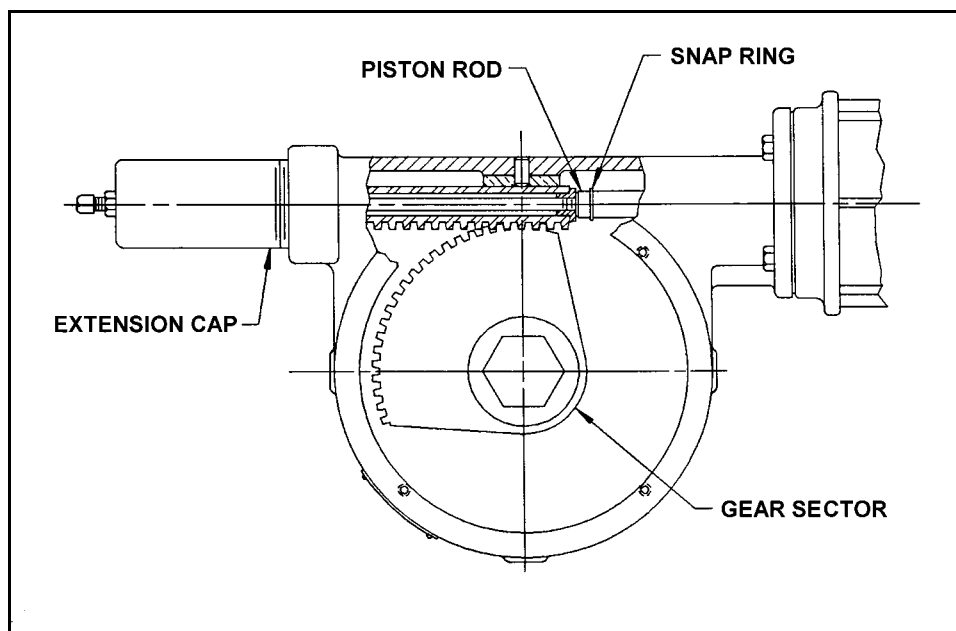

Figure 1 – Actuator Shown with Cylinder Pressurized
3. Pressurize the cylinder. Inspect the snap ring on the end of the piston rod. (See Figure 1.)